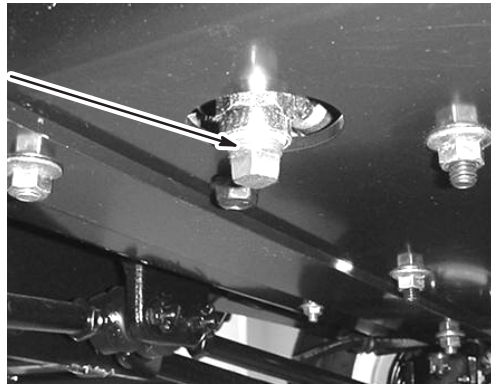

Figure 31
- Remove the drain plug (Fig. 31).